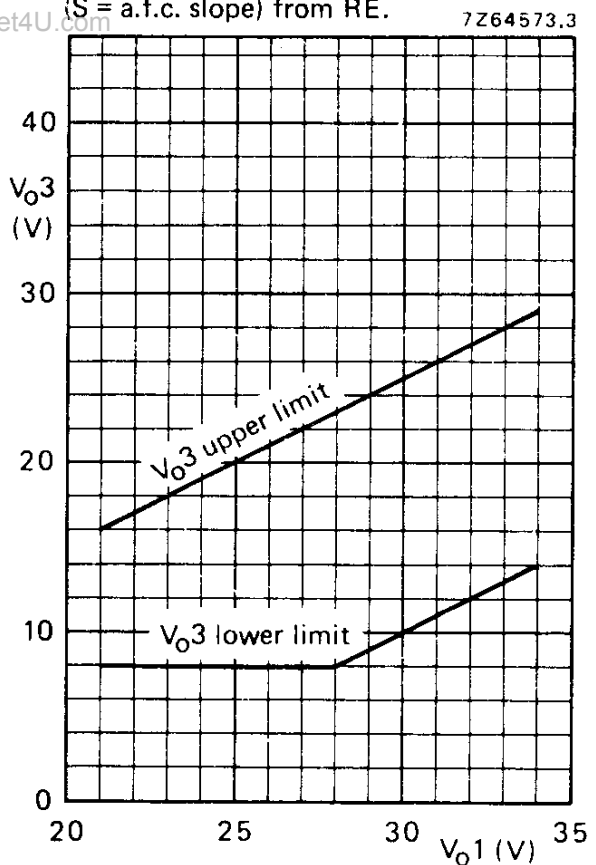

Fig. 7 Range of values for V_{O3} .
12. V_{O3} depends on the value of V_{O1} (see Fig. 7); adjustable with RA_3 .